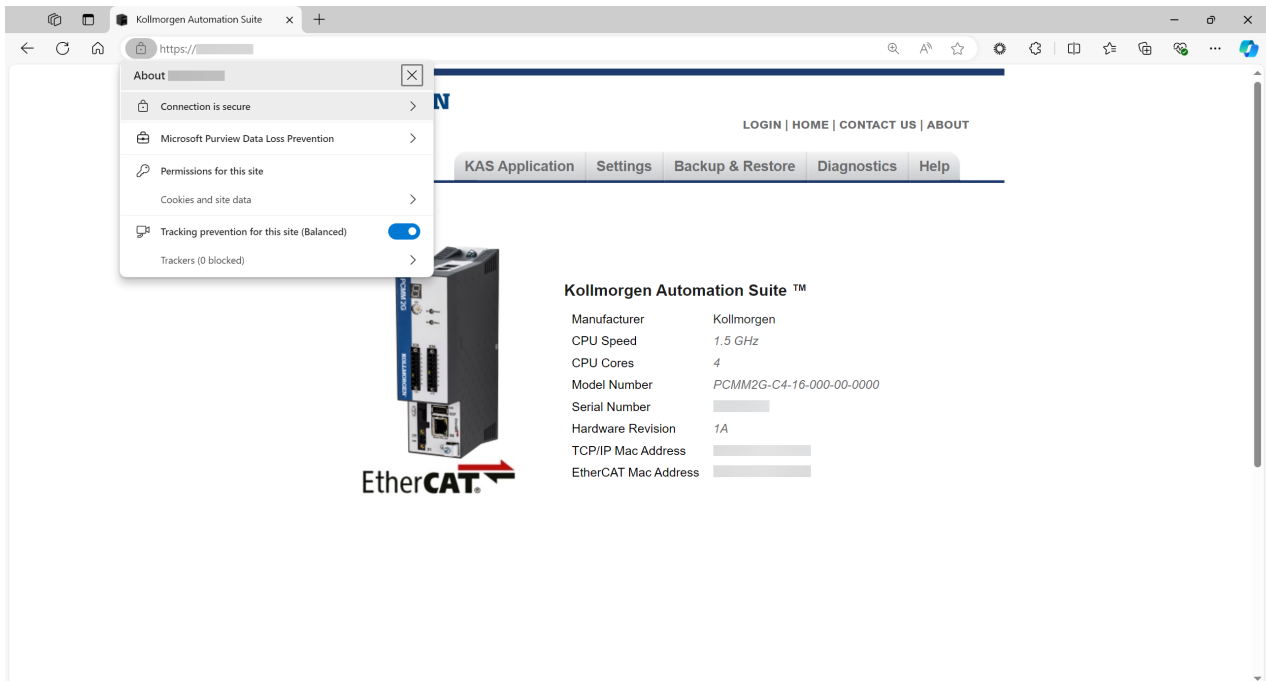

Figure 9-42: Connection is secure option
36. Click the **Secure** button and click the **Connection is secure** option. (Figure 9-42)